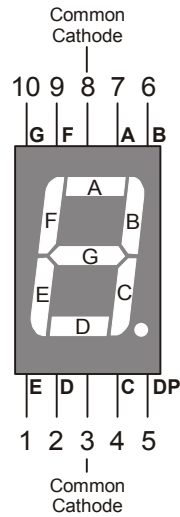
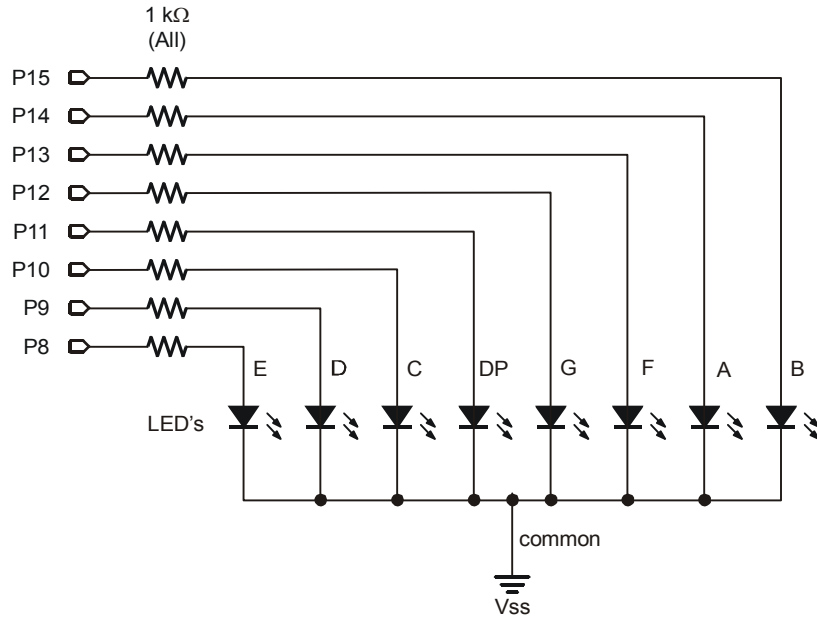
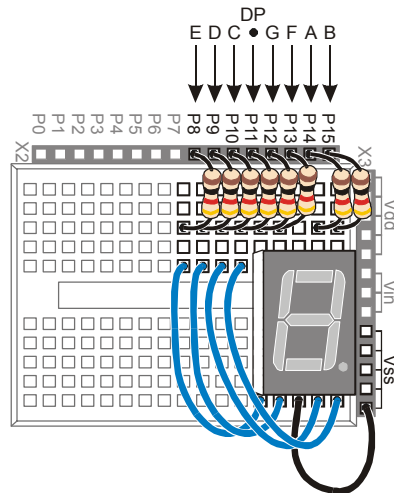

Figure 6-2
Figure 6-10
Figure 6-11
A 7-segment display is rectangular block of 7 lines of equal length that can be lit selectively to display digits and some letters. A very common form is the 7-segment LED display, a package with a rectangular block of 7 LEDs. Figure 6-2 shows a part drawing of the 7-segment LED display you will use in this chapter's activities. It has one additional LED, a dot that can be used as a decimal point. Each of the segments (A through G) and the dot contains a separate LED, which can be controlled individually. Most of the pins have a number along with a label that corresponds with one of the LED segments. Pin 5 is labeled DP, which stands for decimal point. Pins 3 and 8 are labeled "common cathode", and they will be explained when the schematic for this part is introduced.
Pin Map: Figure 6-2 is an example of a pin map. A pin map contains useful information that helps you connect a part to other circuits. Pin maps usually show a number for each pin, a name for each pin, and a reference. Take a look at Figure 6-2. Each pin is numbered, and the name for each pin is the segment letter next to the pin. The reference for this part is its overall appearance. You know by looking at the top of the display that pin 1 is closest to the lower-left corner of the display. Other parts have more subtle references, such as the flat spot on a regular LED's case.
- ✓ Using the pin map from Figure 6-2 as a guide, repeat these steps for segments C through G.
Figure 6-10 shows the schematic and Figure 6-11 shows the wiring diagram for this BASIC Stamp controlled 7-segment LED display example.
✓ Build the circuit shown in Figure 6-10 and Figure 6-11.
Schematic and pin map: If you are trying to build the circuit from the schematic in Figure 6-10 without relying on Figure 6-11, make sure to consult the 7-segment LED display's pin map (Figure 6-2, page 162).
Be careful with the resistors connected to P13 and P14. Look carefully at the resistors connected to P13 and P14 in Figure 6-11. There is gap between these two resistors. The gap is shown because pin 8 on the 7-segment LED display is left unconnected. A resistor connects I/O pin P13 to 7-segment LED display pin 9. Another resistor connects P14 to 7-segment LED display pin 7.